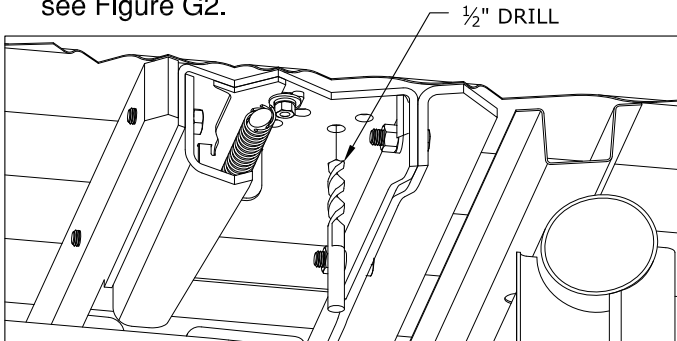

Figure G2: Cut away view of bed and center section
1. **Drill the holes.** From under the bed use a drill and a $\frac{1}{2}$ " drill bit to drill through the bed using the four holes that match up with a low rib in the truck as a guide. Remove any burrs created during the drilling process, see Figure G2.